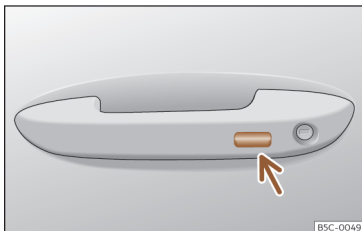

Fig. 89 Door handle: sensor surface.
- **OR:** using the Keyless Access system (only locking): Press and hold the locking sensor surface >>> **Fig. 89** (arrow) on the door handle for several seconds to close the windows and the sunroof. If you stop touching the sensing surface, the locking function is interrupted.
Press and hold the locking sensor surface >>> **Fig. 89** (arrow) on the door handle to close the sunroof. If you release the sensor surface, the closing movement stops.